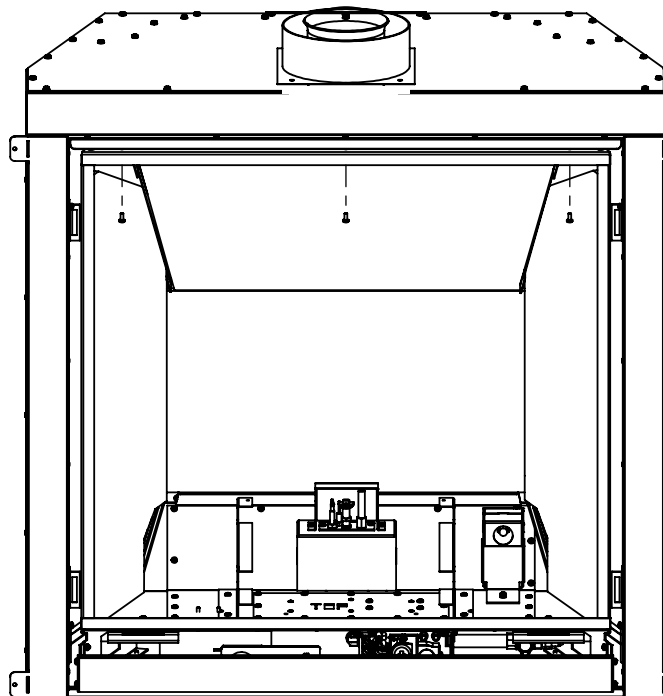
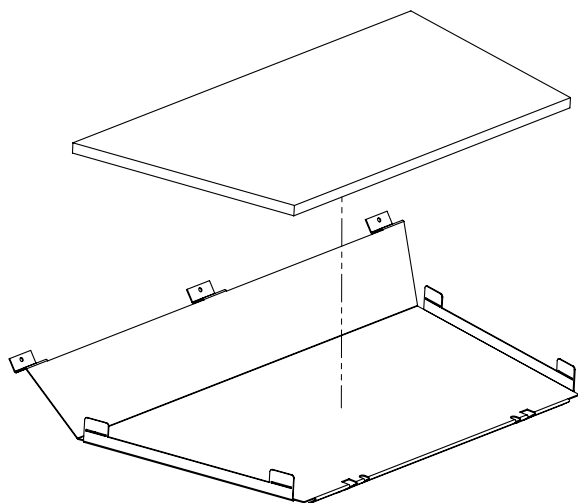

Figure 1. Firebox liner preparation
Figure 2. Exhaust Baffle Retainer Tabs
Step 1: Be sure the fireplace is cool. Remove the safety screen, door, log set (if installed), log grate, burner tube, and upper and lower air diverters. If unsure, instructions for removing these parts can be found in the MAINTENANCE AND SERVICE section of your Q3 Owner's Manual. Once all required components are removed, your appliance should resemble Figure 1.
Step 2: The panels are delicate so please handle with care. Use a T20 screwdriver to remove the 3 screws holding up the Exhaust Baffle (See Figure 1). Remove the Baffle followed by the rear and side brick panels. Use a pair of pliers or your fingers to unbend the retainer tabs that secure the brick liner to the baffle and remove the liner (Figure 2).